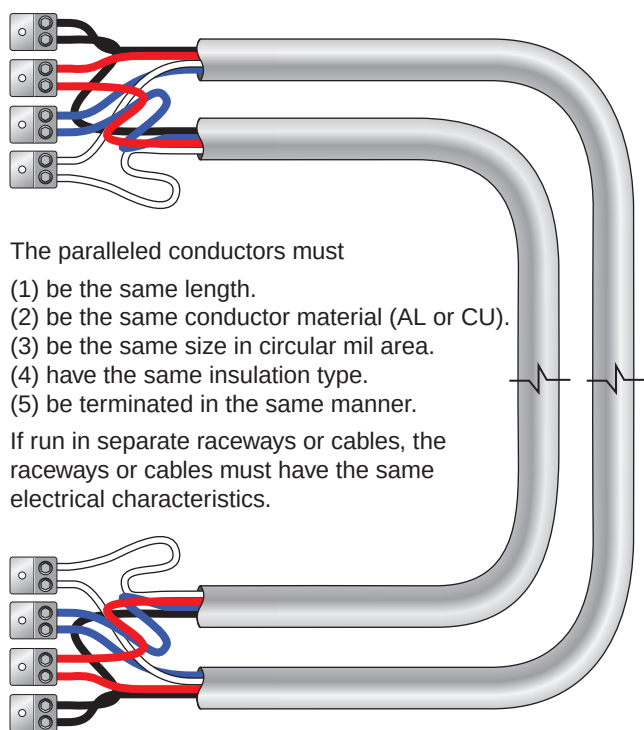

FIGURE 8-10 Requirements for parallel conductor installations. (Delmar/Cengage Learning)
NEC 310.10(H) sets forth the requirements for installing parallel conductors. These requirements are intended to ensure the conductors will share the current equally to prevent overloading individual conductors. The requirements are illustrated in Figure 8-10. The parallel conductors shall